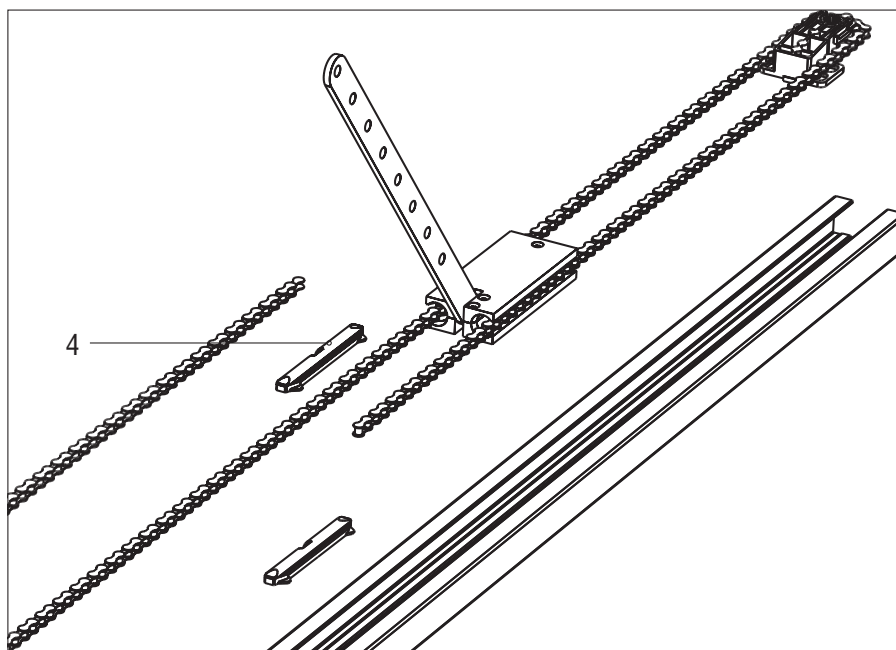

Fig. 4
5. Disassemble a support, pos. 4, into two parts (fig. 4).